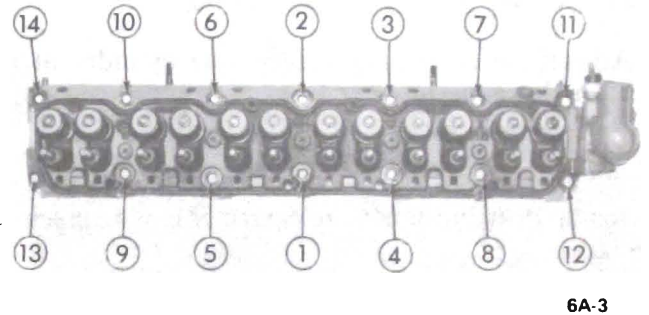

Figure 6A-3 Cylinder Head Bolt Tightening Sequence
5. Install head bolts. Tighten the bolts a little at a time about three times around in the sequence shown in Figure 6A-3. Give bolts a final torque in the same sequence. Torque to 95 lb. ft.